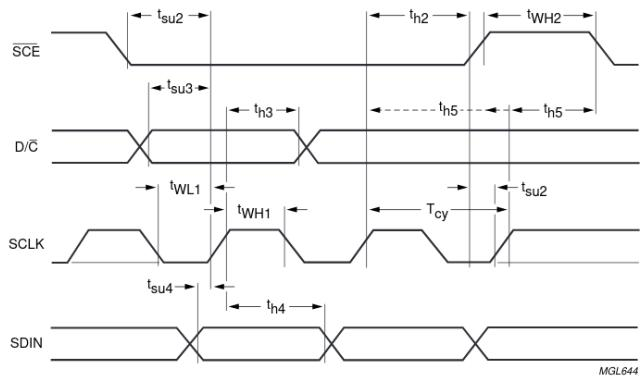

Fig.15 Serial interface timing.
3.  $t_{h5}$  is the time from the previous SCLK positive edge (irrespective of the state of  $\bar{SC}\bar{E}$ ) to the negative edge of  $\bar{SC}\bar{E}$  (see Fig.15).